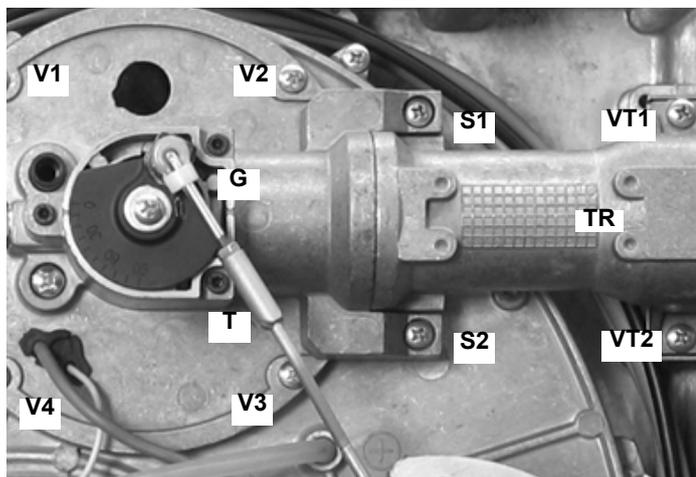
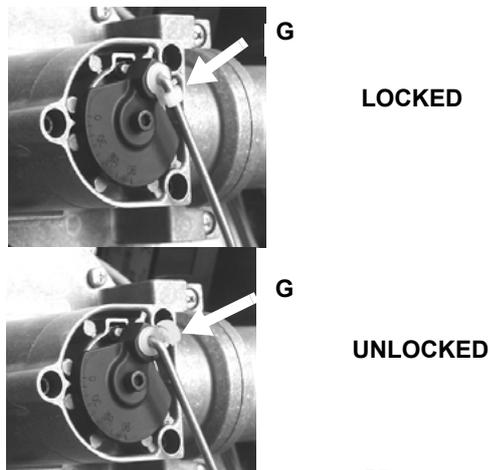
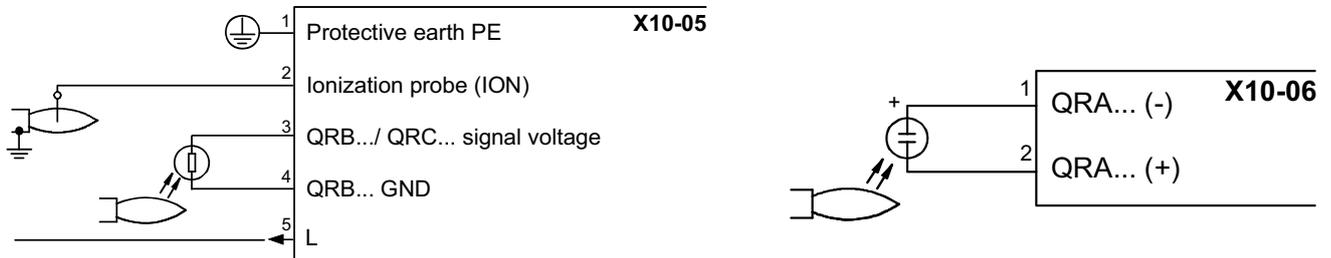

Fig. 54
Fig. 55
Fig. 59
- Check the ignition and detection electrodes, clean and adjust if necessary (see Fig. 55). In case of doubt, check the detection current according to the schemes in Fig. 59.
- 1 By means of the plastic hook **G**, unlock the rod **T** (Fig. 54) which drives the butterfly valve (Fig. 54 and Fig. 55), to disconnect it from its seat.
- 2 Remove the screws **V1**, **V2**, **V3**, **V4** and the screws **S1** and **S2** (Fig. 54).